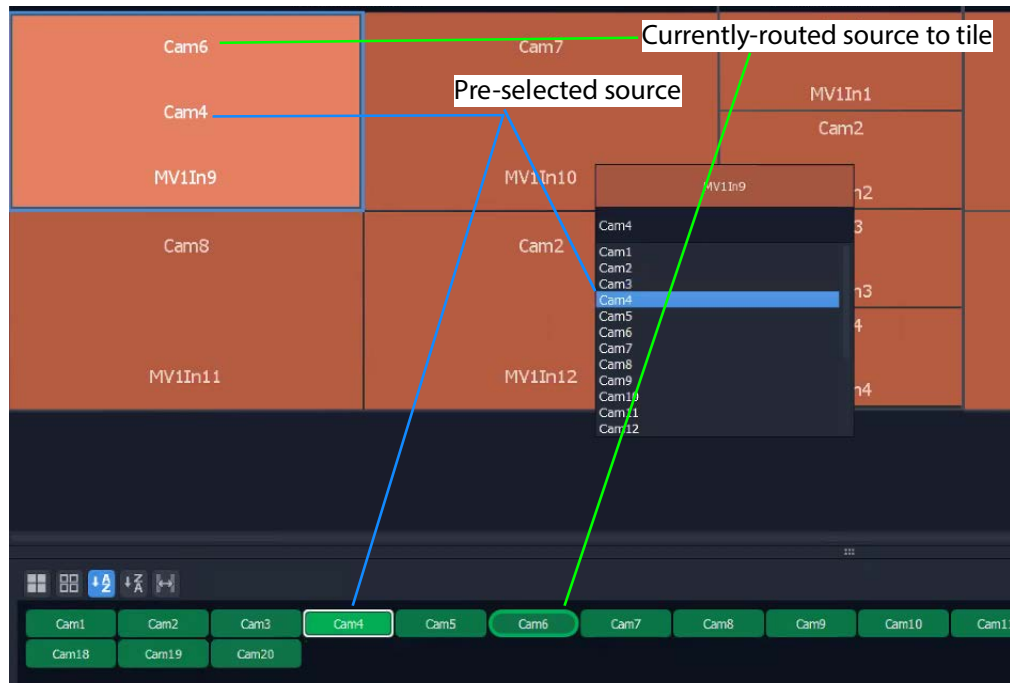

Fig. 15-81: Select Source
- 3 To pre-select a source to be routed and make the route (see Figure 15-81), either: